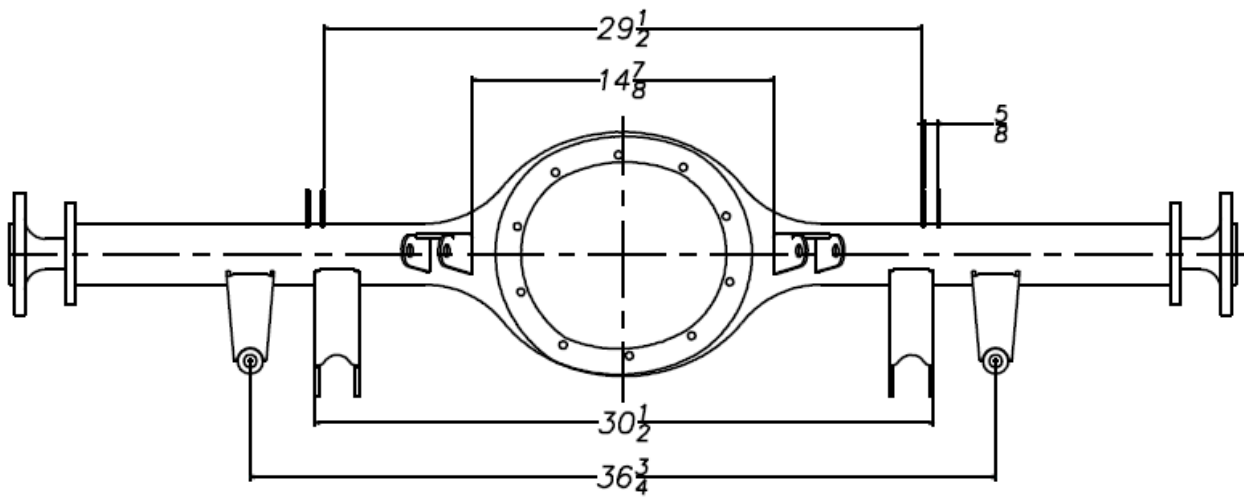
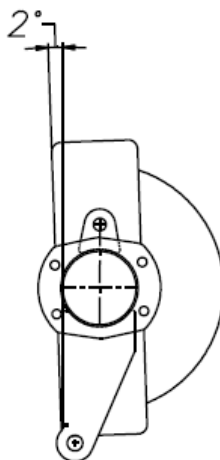

Figure 1- Axle Brackets Install
Figure 2- Housing 2° from Vertical
1. Begin by installing the Axle Brackets onto the housing at the distances shown in **Figure 1**. The Axle Brackets are symmetrical with the centerline of the housing. **PLEASE NOTE THAT YOUR HOUSING "BANJO" WILL LIKELY BE OFF CENTER!** For this reason, to locate the center of your housing, measure from the outside edge of each outer flange and mark the halfway point. As shown in **Figure 2**, your housing should be pointed **down 2°** from vertical, while all of the mounts (except for the angle brackets) should be vertical. The top face of the angle brackets will be horizontal. Once in place, tack weld them.